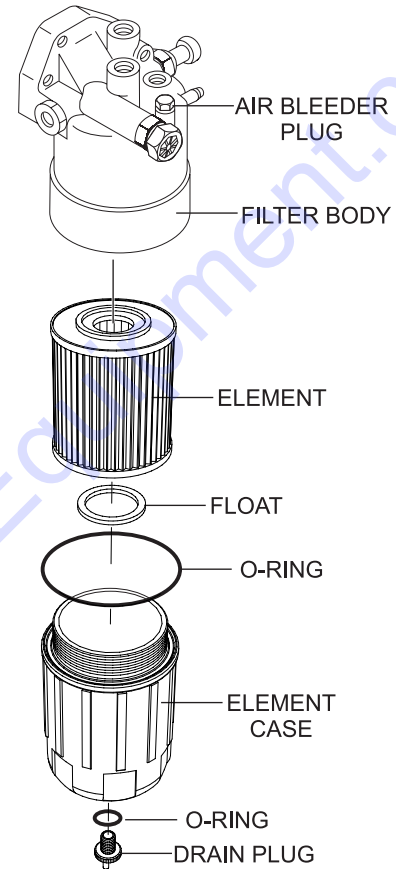

**Figure 57. Draining Fuel Filter**
Inspect the fuel filter **daily**. If the fuel filter (Figure 57) has collected a significant amount of water and sediment at the bottom of the cup, it should be drained off immediately.
1. Loosen the air bleeder plug (Figure 57) on the fuel filter body.
2. To discharge the fuel inside the fuel filter, **OPEN** the drain valve on the fuel filter by turning the knob **counterclockwise (A)** approximately 3-1/2 turns until the valve drops down 1 inch (25.4 mm) and draining occurs (B).